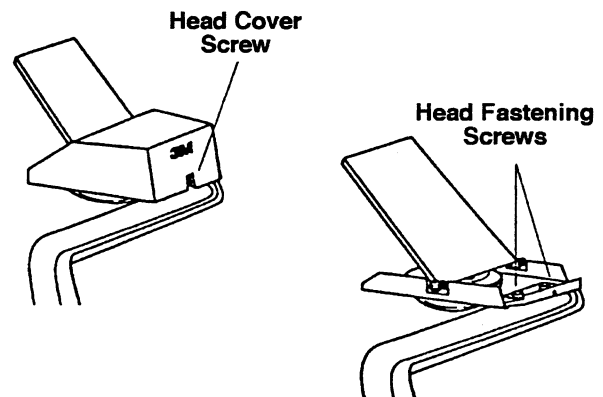

Figure 4-7. Adjusting the Head
3. If the image is not square, loosen the head cover screw and remove the cover. Figure 4-7.
4. Loosen the head fastening screws (B), for closed or open projection heads, and move the projection head left/right or forward/backward.